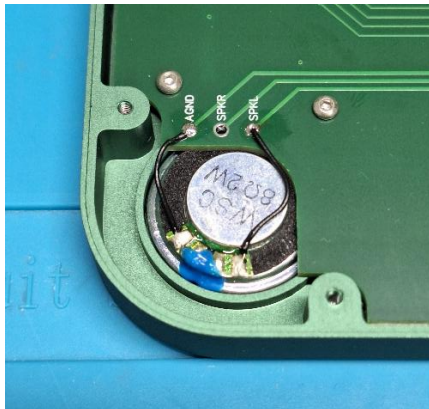

Figure 16: Speaker soldered to corresponding pads on button PCB
8. Solder two short wires from the speaker to the button PCB as shown in Figure 16. The negative terminal of the speaker should be soldered to the AGND pad on the button PCB, and the positive terminal of the speaker should be soldered to the SPKL pad on the button PCB.